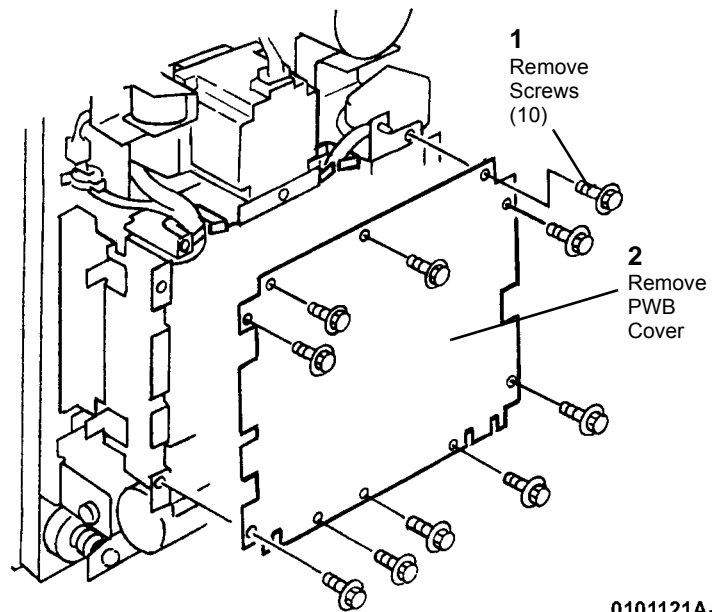

Figure 1 Removing PWB Cover
2. Remove the PWB Cover (Figure 1).